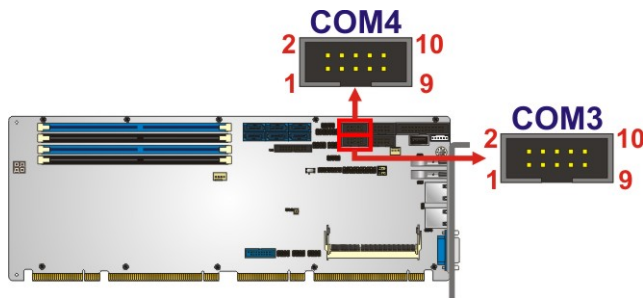

Figure 3-22: RS-232/422/485 Serial Port Connector Locations
- CN Location:** See **Figure 3-22**